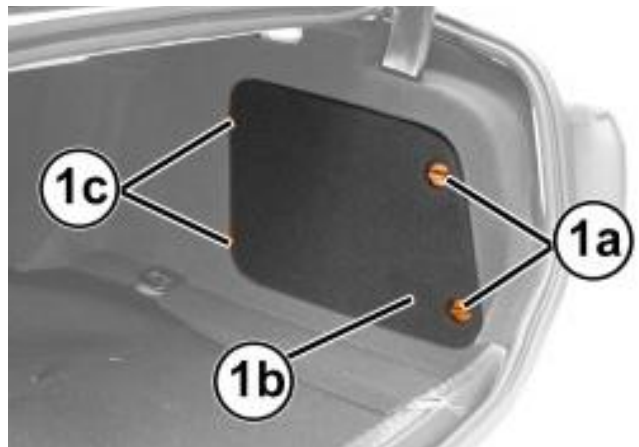

Figure 21 – Battery Cover
51. Position the battery cover (1b) while engaging the retainers (1c), then turn the retainers (1a) clockwise to the end of their travel to secure them (Figure 21).